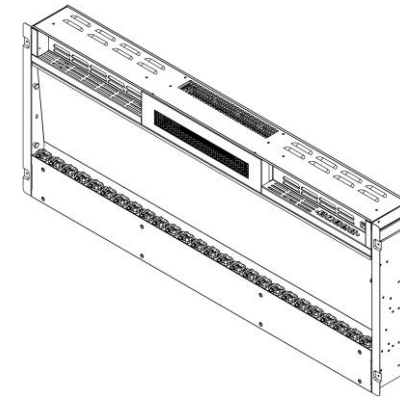

Fig.9
- Put the crystal stone to ember bed. First, take off glass from appliance. Then put crystal stone on ember bed. Fig.9